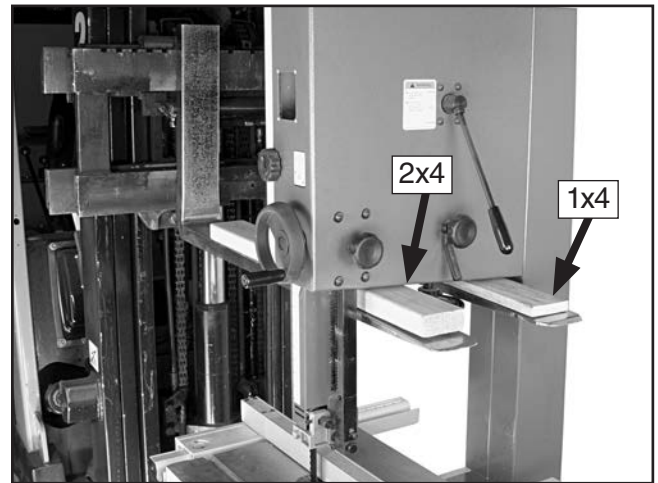

Figure 21. Example of lifting bandsaw with forklift using wood shims.
3. Carefully place the forklift forks under bandsaw head and install a 1x4 wood shim between the head and the left fork and a 2x4 wood shim between the head and right fork so the bandsaw is level, as shown in **Figure 21**.